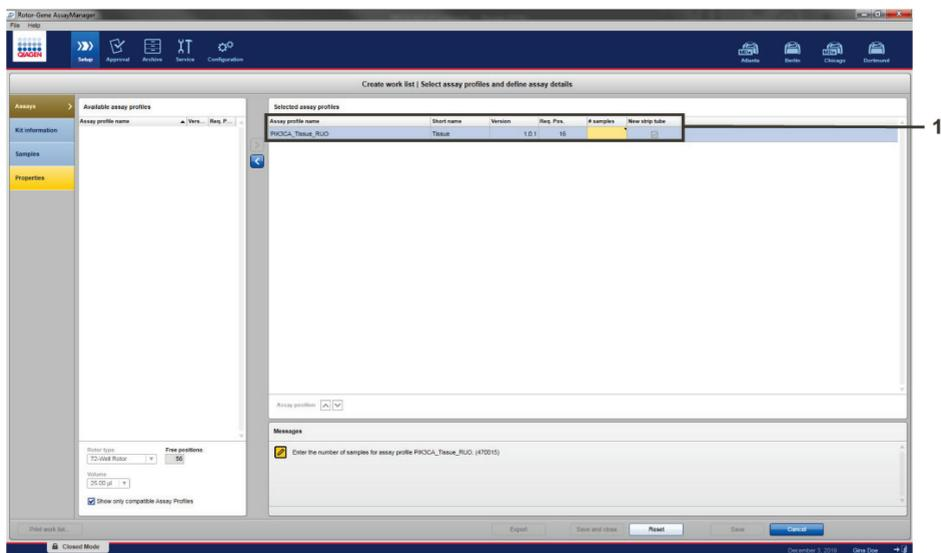

Figure 8. Create work list main window. 1 = Add the number of samples.
16. In the Selected assay profiles window, enter the number of test samples to be tested in the # samples column, excluding the number of run controls (Figure 8).